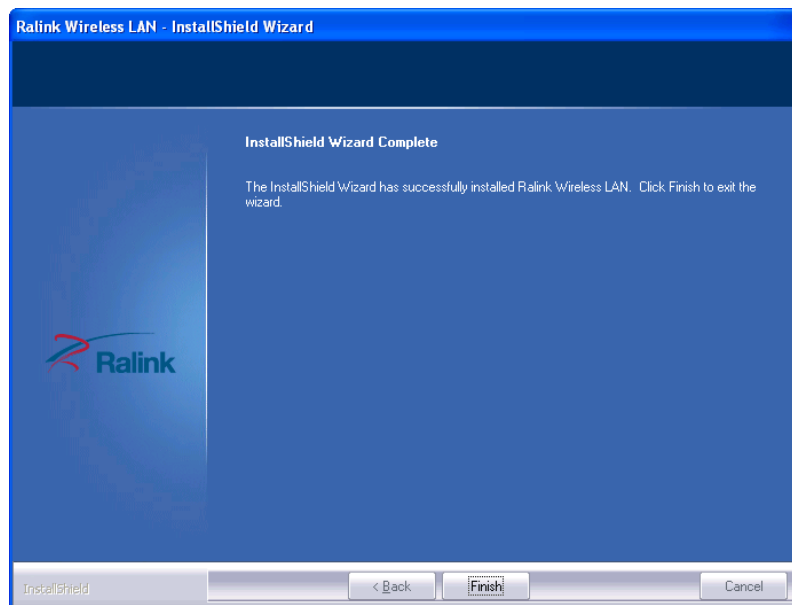

Figure 6-29: Installation Complete
Step 12: When the driver installation is complete, the screen in **Figure 6-29** appears.